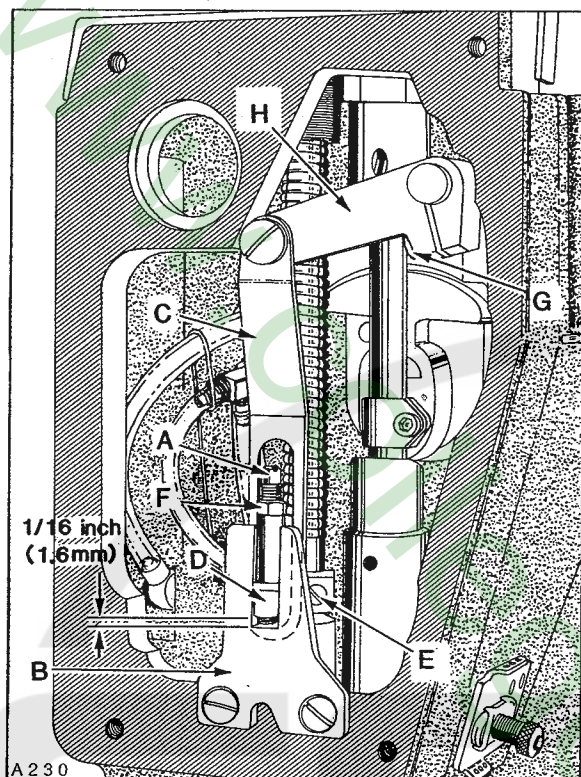

Fig. 24
With needle bar at bottom of stroke and presser foot resting squarely on throat plate, there should be a minimum clearance of 1/64 inch (.4mm) between the bottom of screw (A, Fig. 24) and bottom of slot in presser bar guide plate (B). At this time, there should be at LEAST 1/32 inch (.8mm) clearance between bottom of presser bar guide and top of lower presser bar bushing.